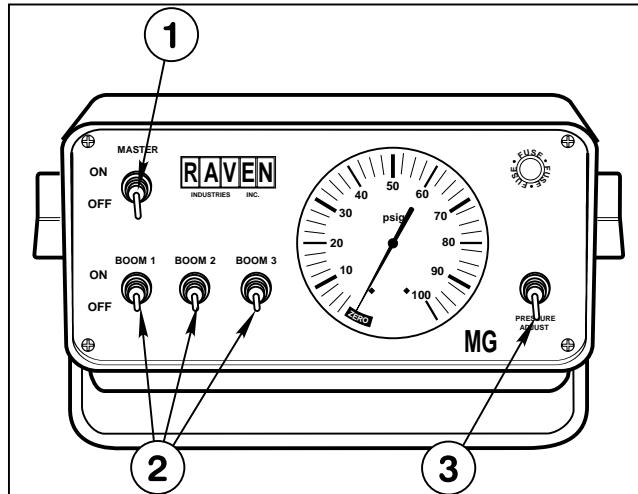

FIG. 3
**ELECTRIC SPRAY CONTROL SYSTEM:** Controls the pressure and flow of spray solution to the Boom sections. See FIG. 3.